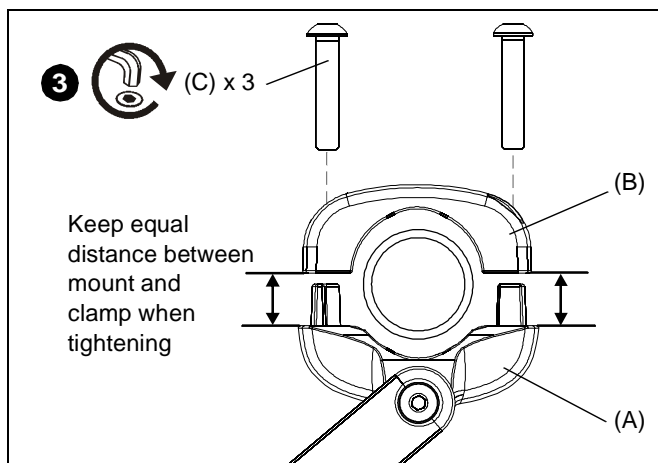

Figure 2
IMPORTANT ! : Equally tighten screws (C) against pole clamp arm (A) and the back clamp (B). (See Figure 2)
4. Secure back clamp (B) to pole clamp arm (A) and pole by equally tightening three 1/4-20 x 1-1/4" button head cap screws (C) using 5/32" hex key (H). (See Figure 2)